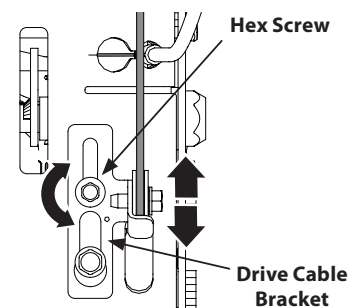

Figure 2-62
2. Loosen upper hex screw on drive cable bracket. See Figure 2-62.